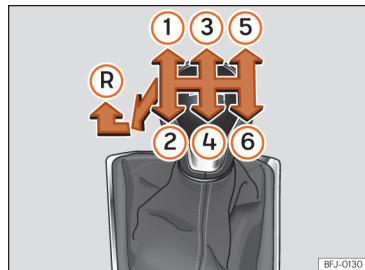

Fig. 121 Diagram of a 6-speed manual gearbox.
Gear positions are indicated on the gear lever >>> **Fig. 121**.
- With the gear lever in neutral, push it down, move it all the way to the left and then forwards to select reverse gear »» Fig. 121 (B).